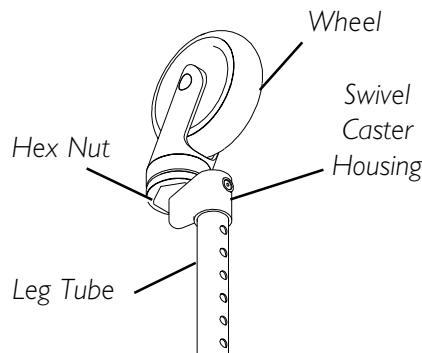

FIGURE 4 - TIGHTENING SWIVEL CASTERS
SWIVEL CASTERS - MODEL NOS. 6273 AND 6267 (FIGURE 4)
TIGHTENING SWIVEL CASTERS (FIGURE 4)
2. Hold one (1) swivel wheel attachment with the wheel up as shown in FIGURE 4.